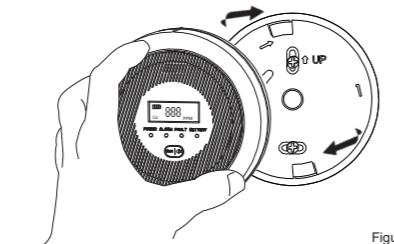

Figure 10
7) Align the detector with the mounting bracket through the 2 protruding noses, turn it clockwise to fix (refer to Figure 10).
Figure 10 shows a hand holding the detector and turning it clockwise to align it with the mounting bracket.